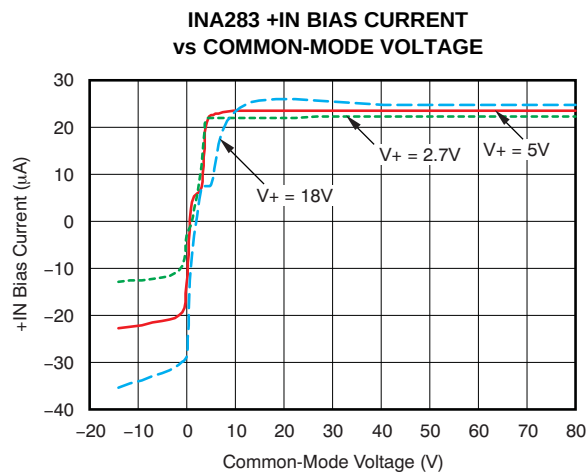

Figure 20.
(1) RTI = referred-to-input.
(2) See typical characteristic graph Figure 20.
(3) The average of the voltage on pins REF1 and REF2 must be between V_{GND} and the lesser of $(V_{\text{GND}} + 9\text{V})$ and V_+ .